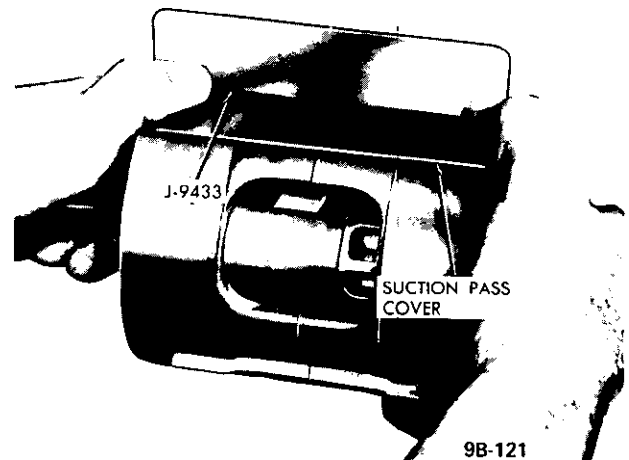

Figure 9B-151 Installing Suction Pass Cover
8. Assemble both service replacement discharge tube "O" rings and bushings (see Figure 9B-152) onto cylinder assembly.